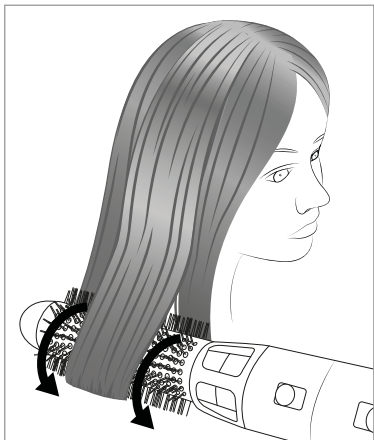

Fig. 6
- 5) Use the round brush **11** at the ends of the hair, distributing the strand along the length of the round brush **11** (see Fig. 6).